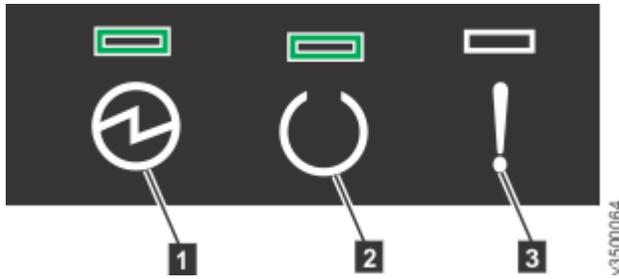

Figure 39. Expansion enclosure LEDs
2. From the rear of the rack, check the LEDs on each expansion enclosure (see Figure 39 on page 79).